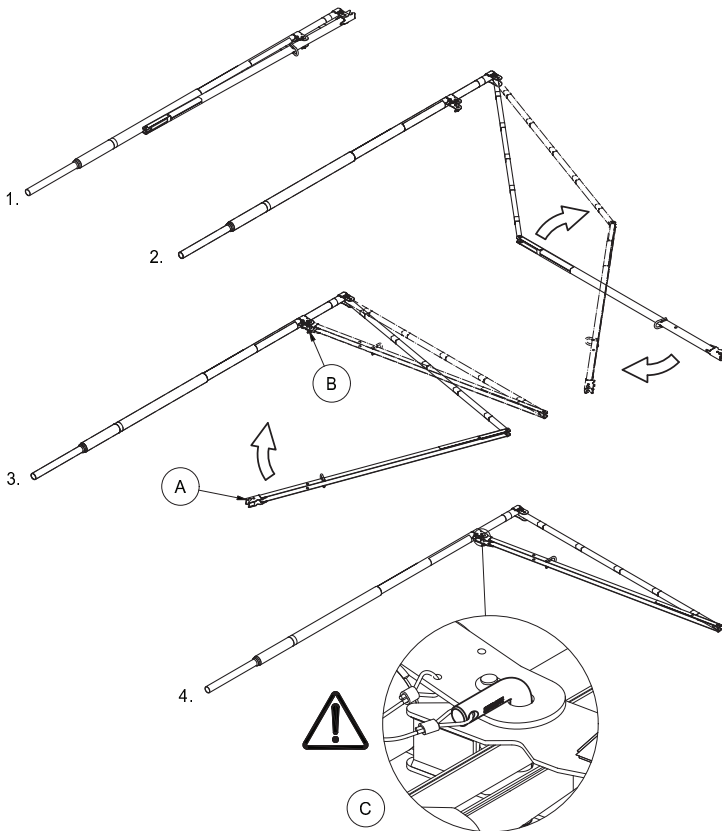

Figure 28. Assembly process of the SkyReach Anchor
10.1 Mount the SkyReach Anchor from the folded position in four easy steps, please see Figure 28: